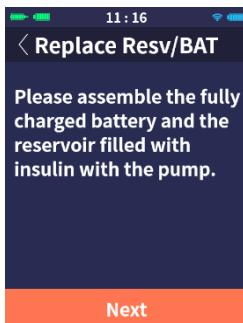

Figure 10.2
(2) Please assemble the fully charged battery and the reservoir filled with insulin with the pump (as shown in Figure 10.2). After the assembly is completed, click "Next".